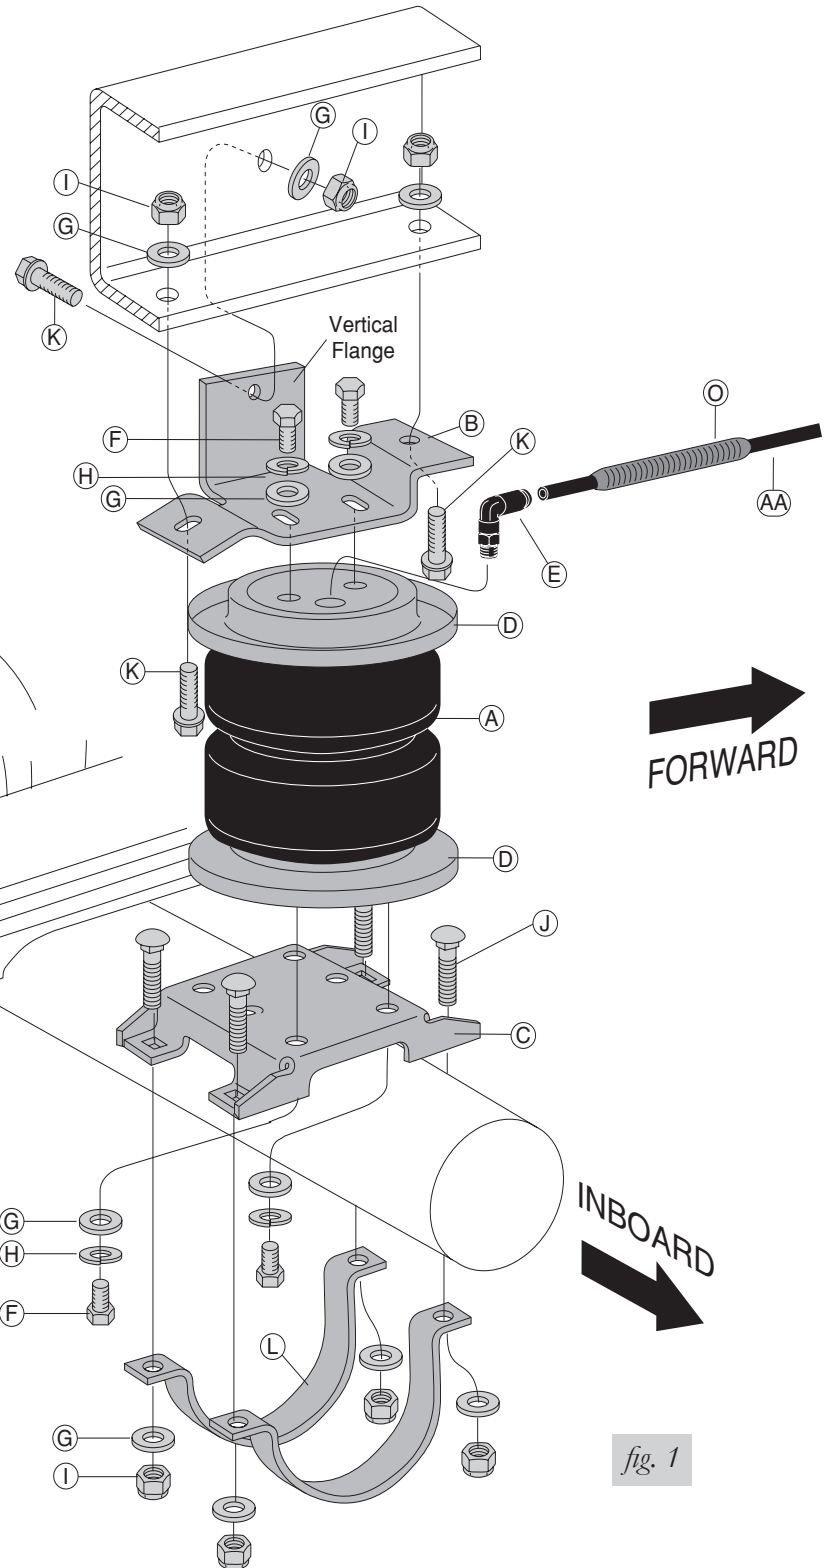

fig. 1
1. Set the assembly on the axle housing and align it so that the air springs follow the natural arc of the suspension travel (Figures 1 and 4).
2. Loosely attach the lower bracket to the axle housing using four carriage bolts (J), two axle straps (L), four flat washers (G), and four nylock nuts (I). Refer to Figures 1 and 4.
5. Install a frame bolt (K), flat washer (G), and nylock nut (I) to each of the previously drilled holes (Figures 1 and 7). Tighten to 16 ft-lbs.
7. Install a frame bolt (K), flat washer (G), and nylock nut (L) to the previously drilled hole (Figure 1). Tighten to 16 ft-lbs.
8. With the unit aligned vertically and horizontally (the upper bracket is slotted for in and out adjustment), tighten the lower assembly to the axle housing. It is important to tighten the forward straps to the lower bracket first, and then the back. Tighten the lock nuts (J) to 16 ft-lbs.